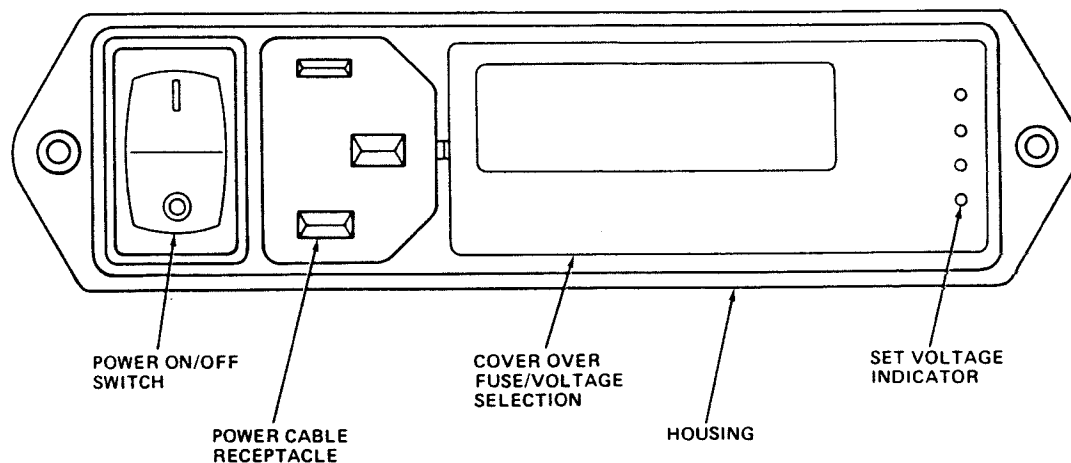
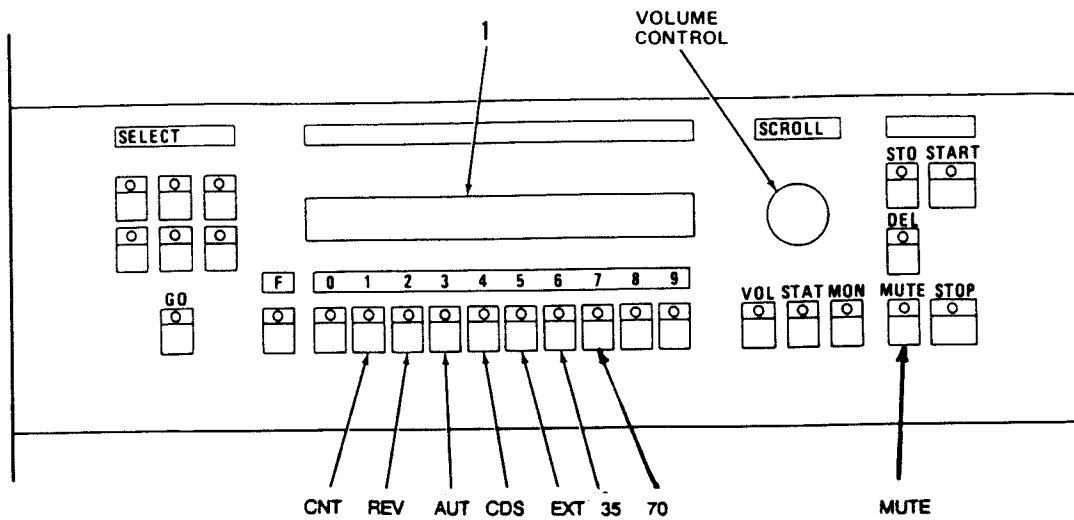

Figure 2-1. Power Entry Module
Figure 2-2. Programming Control Panel
All operating controls and indicators are located on the Processor. The main power switch is located on the power entry module on the rear of the Processor (see figure 2-1). The control panel is located on the front of the Processor (see figure 2-2).
The control panel (figure 2-2) includes the two-line by forty-character liquid-crystal-display (LCD), the pushbuttons below the LCD, the **SELECT**, **SCROLL**, and arrow buttons, and the **VOLUME CONTROL** knob. The pushbuttons illuminate when active.
Button Assignments and Definitions (figure 2-2)
The first line of the display (figure 2-2) either provides information about a system setting or shows the available menu selections. If one of the menu selections has a blinking cursor on its first letter, the operator can use the arrow buttons or the scroll knob on the control panel to move the cursor. Pressing the **SELECT** button will select the menu item. The second line of the display labels the function of each of the active buttons on the control panel.
1. Check that the main power switch (see figure 2-1) is positioned to "O" to turn off the Processor and Reader.